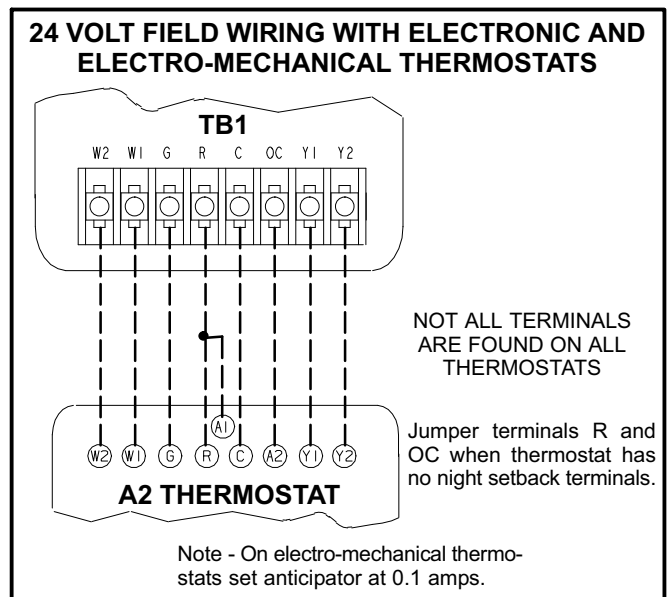

FIGURE 14
- 3- Connect thermostat wiring to TB1 terminal board on the lower side of the controls hat section. Wire as shown in figure 14 for electro-mechanical and electronic thermostats. If using other temperature control devices or energy management systems see instructions and wiring diagram provided by manufacturer.